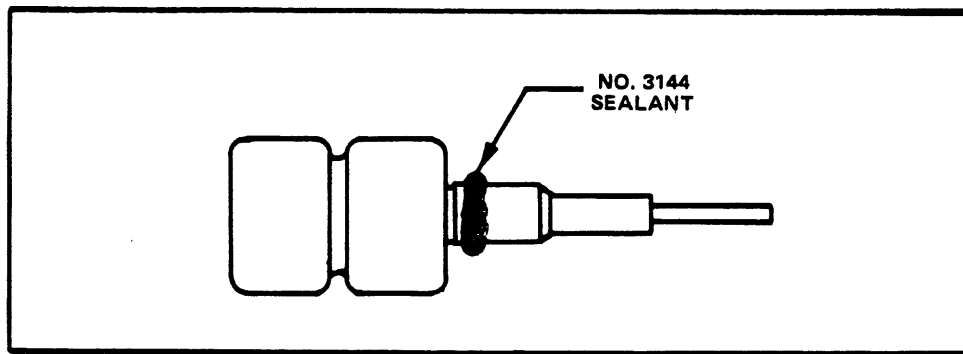

Figure. 14. Application of sealant to FINE control bushing.
STEP 18. Install FINE POSITION control (see Figures 14 and 15).
- (1) 1502 TPN 311-0678-00, MPL Item 2-30.
- (2) 1503 TPN 311-0678-00, MPL Item 2-32.
- (3) The part number for this variable resistor is listed in the Electrical Parts List.
- (1) Form a bead of No. 3144 sealant around the bushing threads as shown in Figure 14.